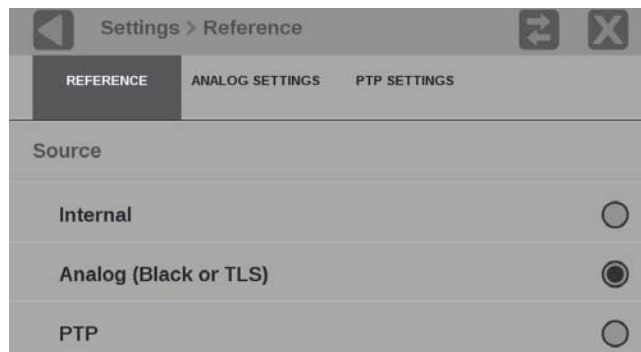

Figure 61: Input Reference options
2. Select **Reference** to open the Reference submenu. (See Figure 61.)